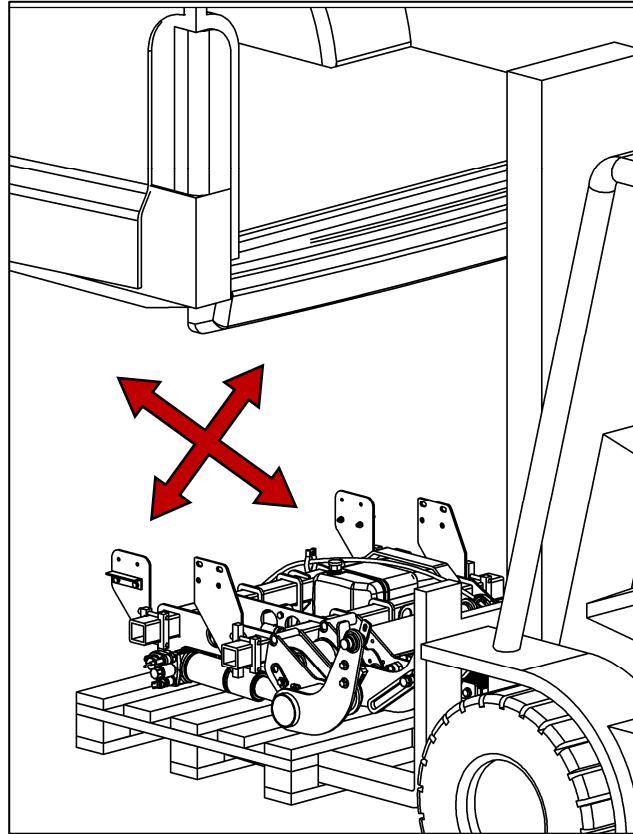

Fig. 25
- Align the lifting gear under the vehicle on a mounting tool or pallet (see Fig. 25).